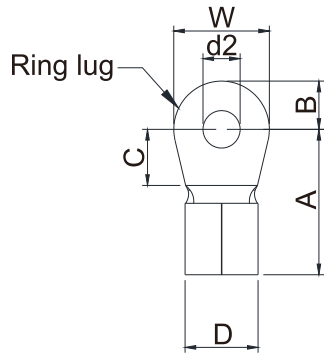
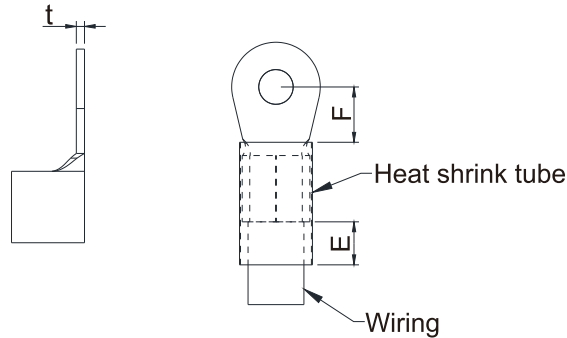

Figure 5-5
Figure 5-6
- Use the specified ring lug for main circuit terminal wiring. See figure 5-5 and figure 5-6 for ring lug specifications. For other types of wiring use the wires that comply with the local regulations.
- After crimping the wire to the ring lug (must be UL approved), UL and CSA approved recognized component (YDPU2/8), install heat shrink tube rated at a minimum of 600 V_{AC} insulation over the live part. Refer to figure 5-6 below.